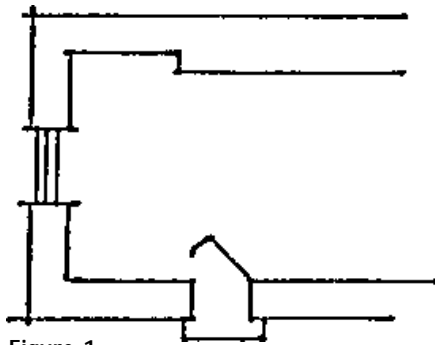
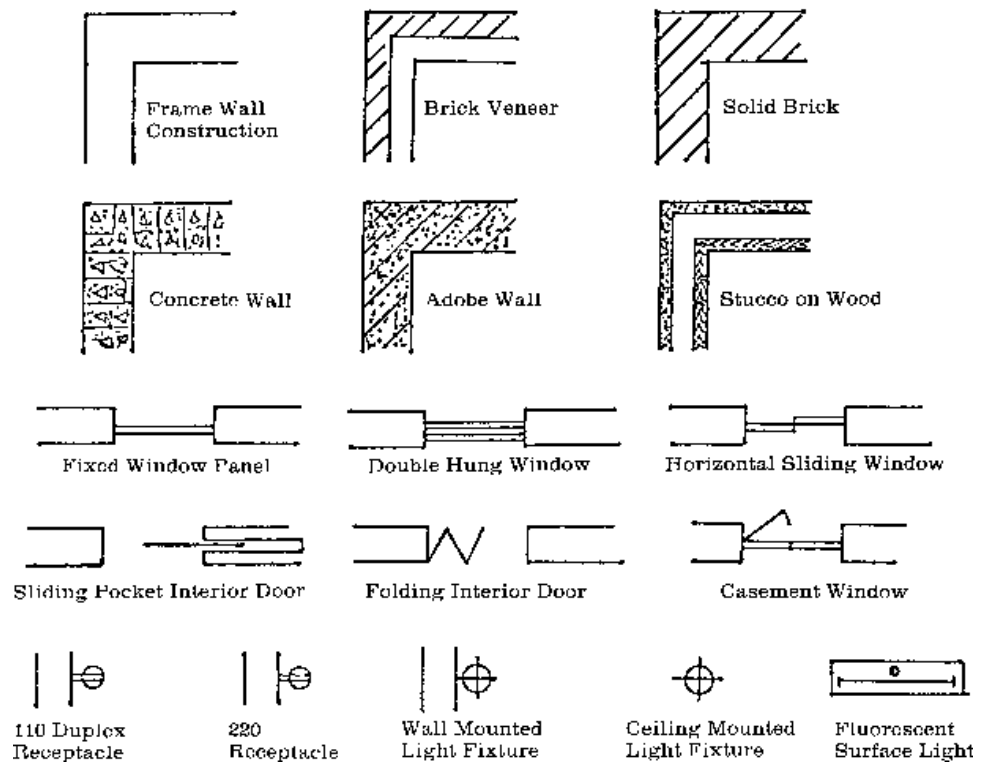

Figure 1.
Figure 5. : Common drafting symbols.
1. Before using the tape measure, sketch the outline of the floor of the structure to be measured (see Figure 1. Be sure to include all projections and recesses of the structure; indicate all windows and doors and the direction of the door-swings. Make the sketch as large as the sheet of paper will allow so there is room to write in the legible dimensions. For uniform symbols of different types of walls, doors, windows and electrical outlets, see Figure 5.